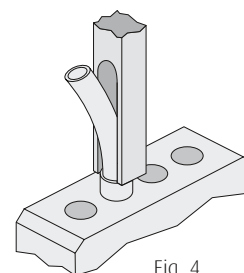

Fig. 4
- Support the face of the moulding on a solid surface (do not rest the connector on any fitted latches). Place the insertion tool around the wire and onto the back of the crimp (Figure 4). Push firmly – there will be an audible click when the socket is correctly seated.